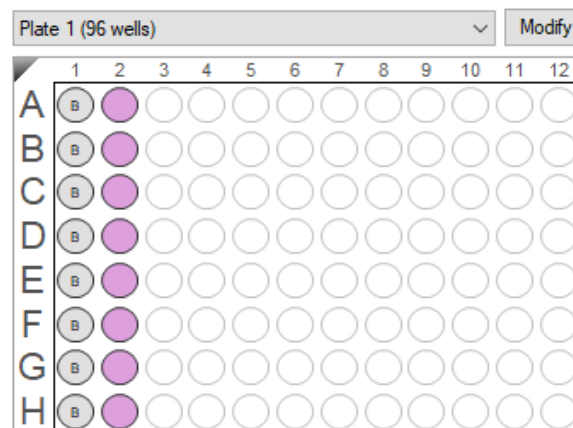

Figure 29: Example Sample Plate layout for GlyM Kit Direct Binding assay.
4. Prepare Sample Plate (example plate layout is shown in Figure 29):